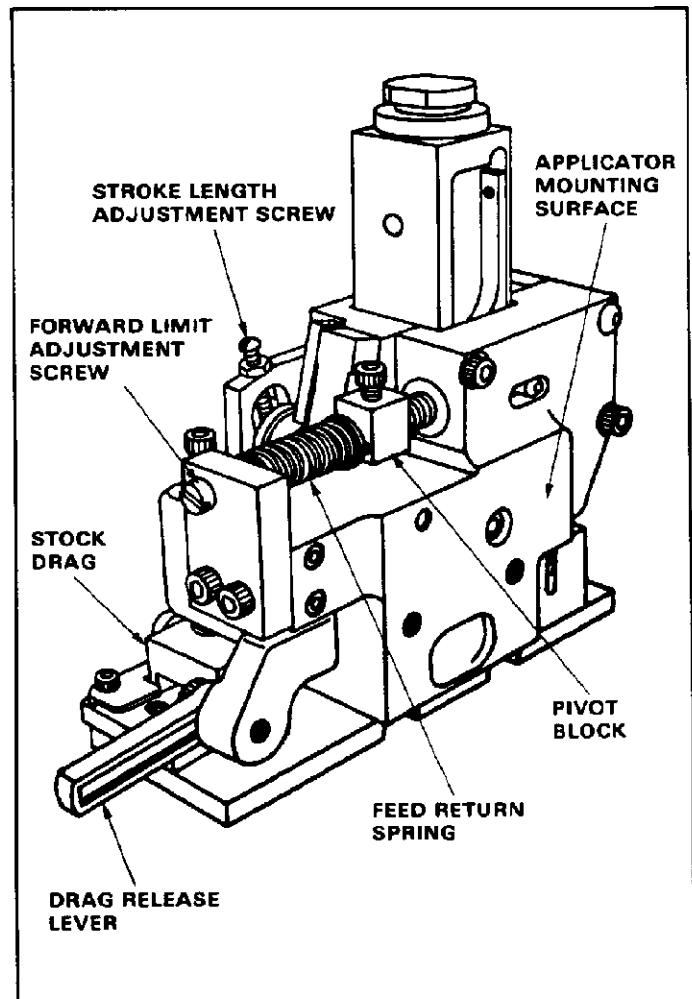

Fig. 4
3. Apply a drop of oil to forward limit adjustment screw, and to feed rod into which it is turned (Figure 4).